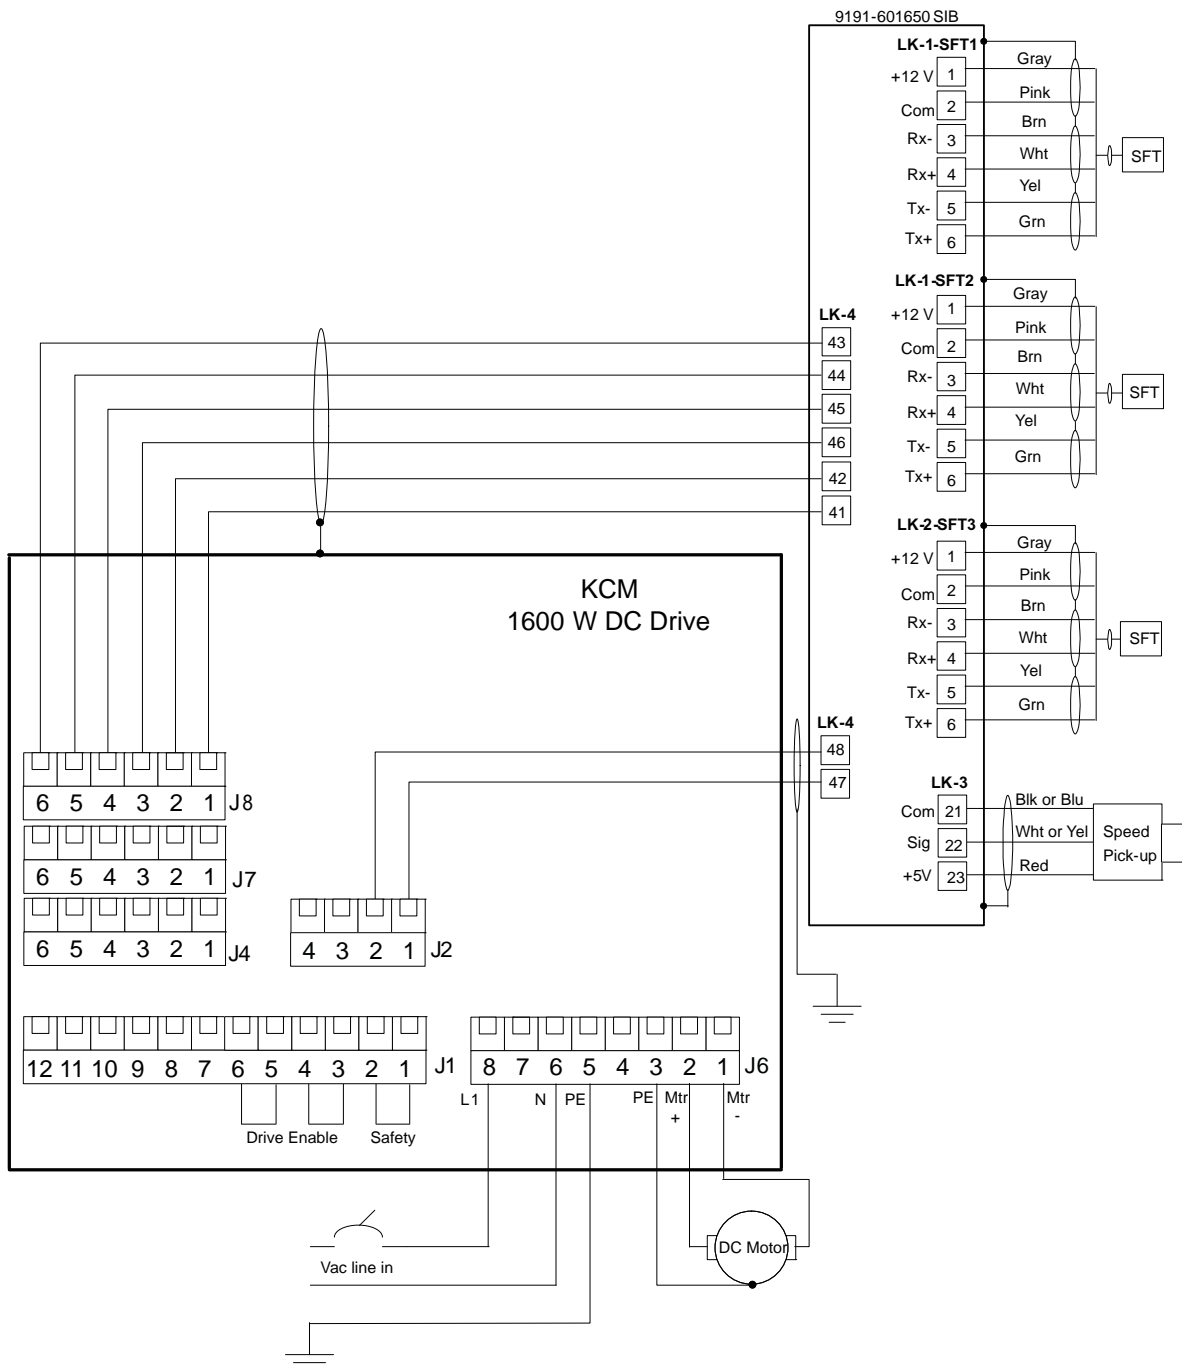

Fig. 12.11 KCM using the SIB pcb example with differential receiver on J2
This is a feeder wiring example for a remote KCM with a feeder mounted SIB circuit card for differential speed signal interfacing. (Fig. 12.11 and Fig. 12.12) The speed encoder interface is shown mounted to J2 in this example. (See Fig. 12.12).
- Fig. 12.11 wiring shows the speed connection signals using the encoder interface circuit card